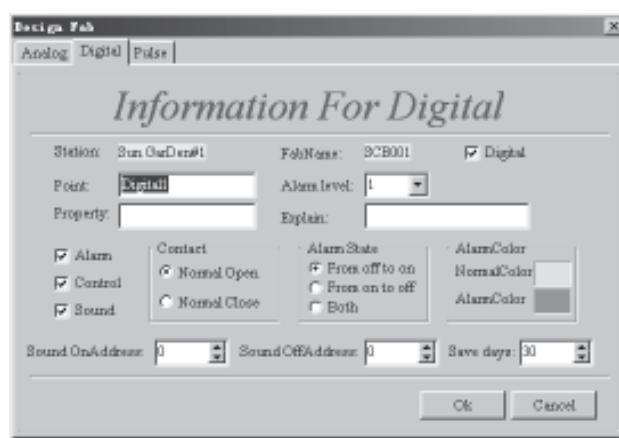

Fig. 4-13 Defining the Port I2 of FAB SGB001
Step 3. Define **Port I2 of FAB SGB001** using the same method, as the above, in Fig. 4-13.